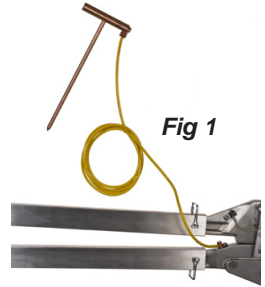

Fig 1
1. Ground the tool with the **Grounding Rod**. (*Fig 1*)